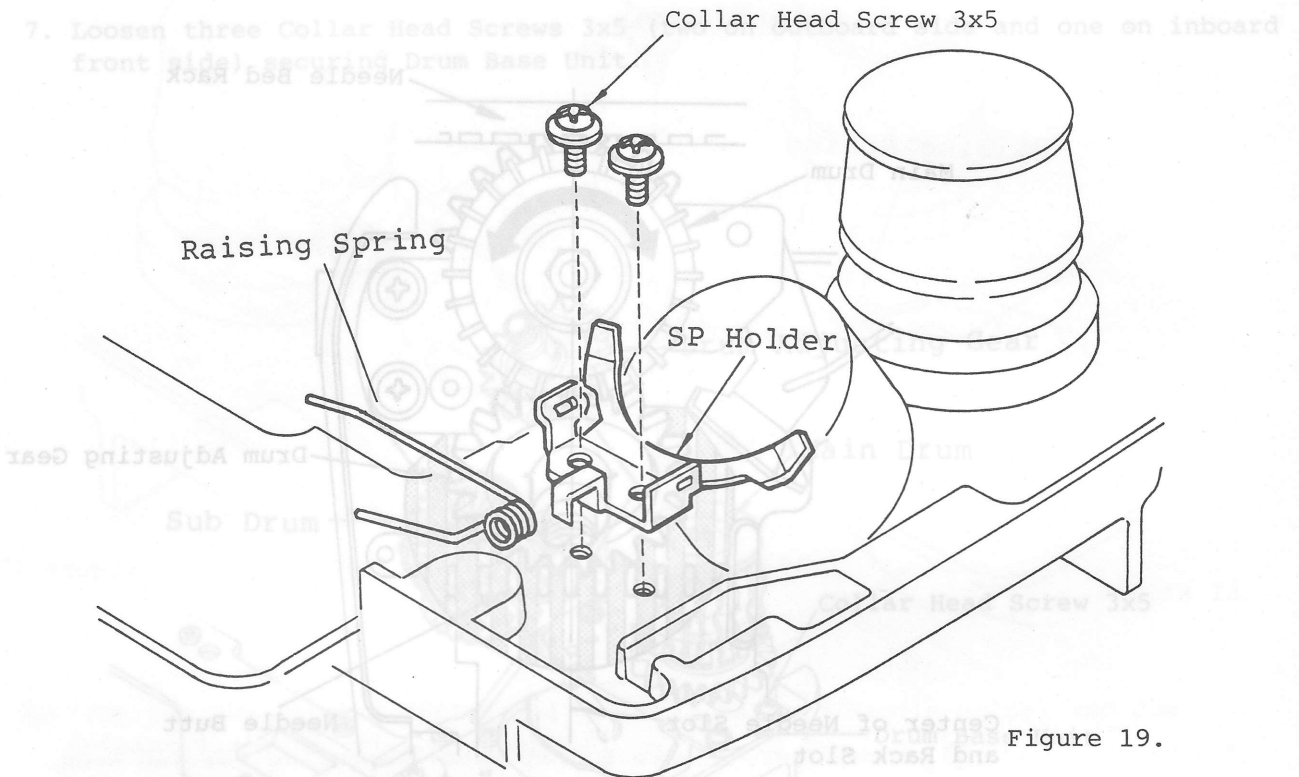

Figure 19.
1. position the clear wire so that the clear cam is activated by clear bars as shown in Figure 19.